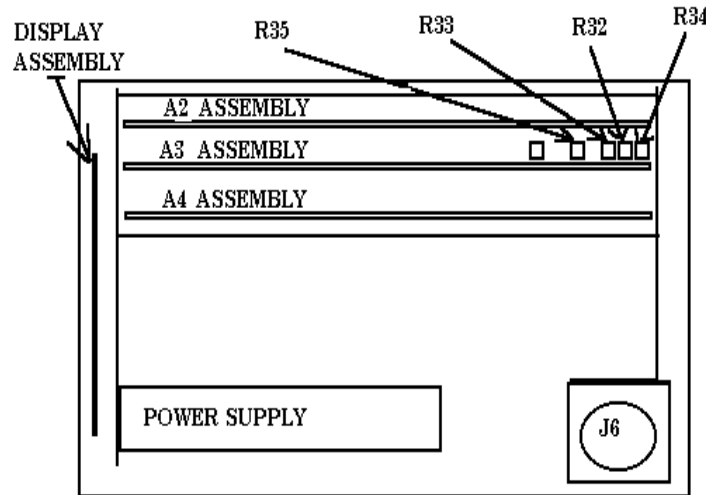

Figure 7. High speed I/O board A3 - adjustment locations.
- (1) Adjust A3R32 (fig. 7) for a SUM pulse width between 0.7 and 0.9  $\mu$ sec (R).
- (2) Adjust A3R34 (fig. 7) for a DIFF pulse width between 0.7 and 0.9  $\mu$ sec (R).
- (3) Adjust A3R33 (fig. 7) for a pulse width between 0.4 and 0.6  $\mu$ sec (R).
- (4) Adjust A3R35 (fig. 7) for a pulse width between 0.4 and 0.6  $\mu$ sec (R).